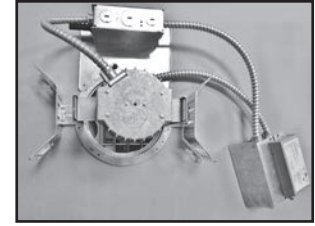

Figure 22
6. Lay retrofit driver assembly away from ceiling/housing opening with driver side up (Figure 22).